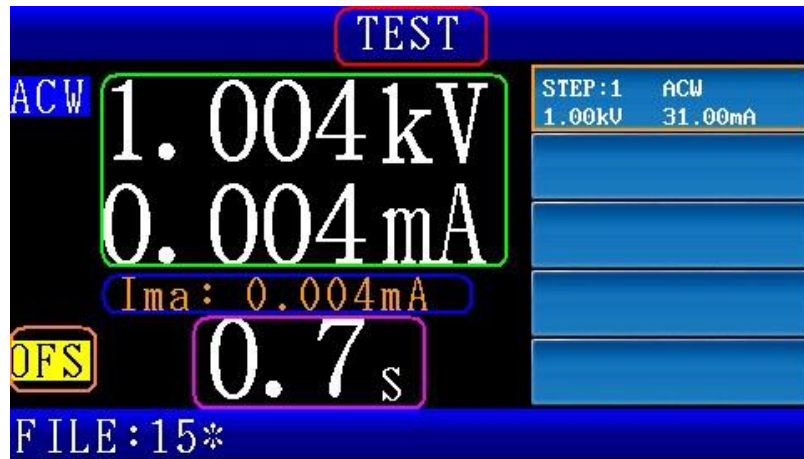

Figure 4-2-1 Test
- (1) The message TEST is shown in the message column. (Figure 4-2-1)